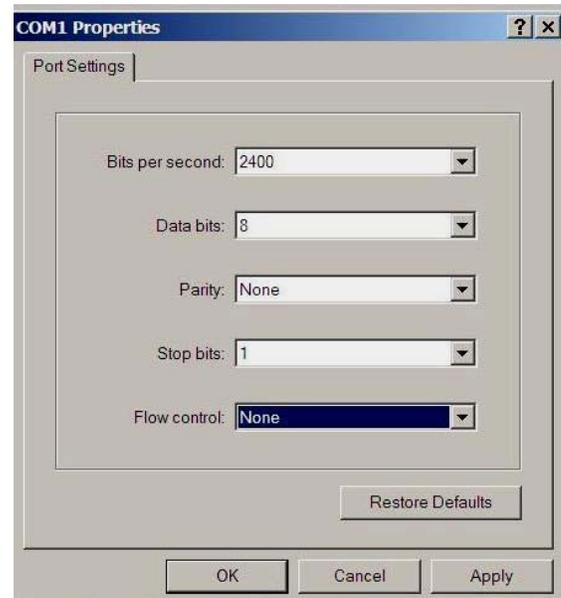

Figure 38
Step 4: The **COM Properties** screen appears (Figure 38). Select the port settings as shown.
The **COM Properties** Screen reappears (Figure 38). Click **OK**.